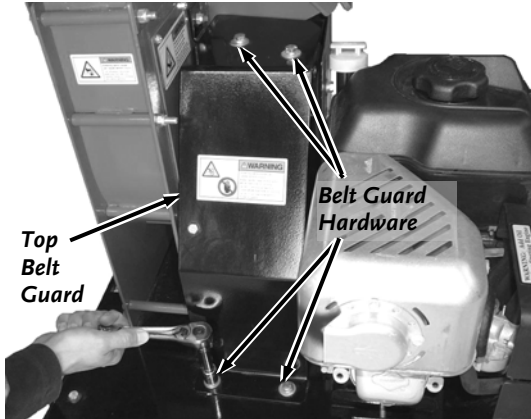

Figure 22
1. Remove the four Bolts, Lock Washers and Flat Washers from the Top Belt Guard using a 1/2" Wrench (**Figure 22**).
12. Secure the Top Belt Guard with four Bolts, Lock Washers and Flat Washers using a 1/2" Wrench (**Figure 22**).